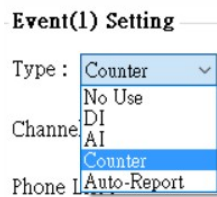
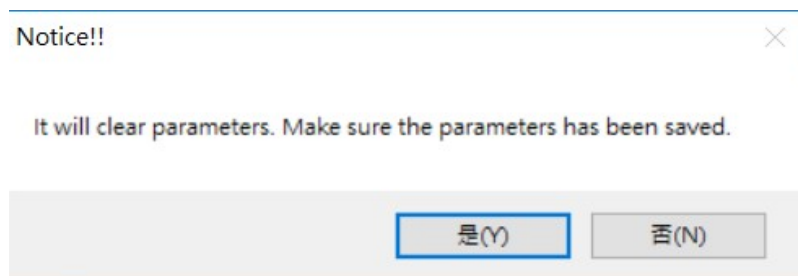

Figure 6.10.22
Figure 6.10.23
E. Select “Counter” in Type as shown in Figure 6.10.22. After selecting, it will pop up the a tention window and select “Yes” as shown in Figure 6.10.23